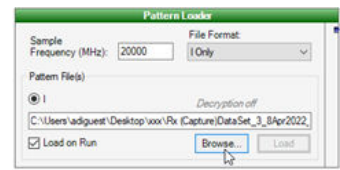

Figure 70. Loading the Saved Data in Pattern Loader in the VisualAnalog Canvas
- ▶ Select the file previously saved in the **Pattern Loader** in the **VisualAnalog** canvas (see Figure 70).